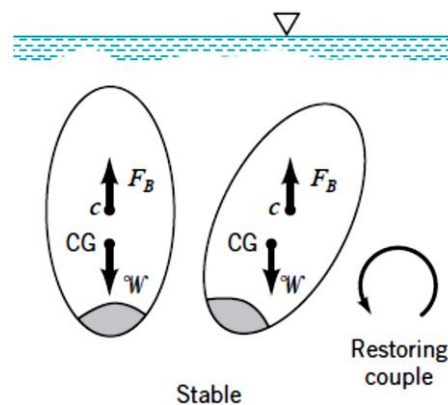

Fig.3. Stability of a completely immersed body—center of gravity below centroid.
The location of the center of gravity (CG) in regard to the center of buoyancy (c) is very important. Fig. 3, which has a center of gravity below the center of buoyancy, a rotation from its equilibrium position will create a *restoring* couple formed by the weight, W , and the buoyant force, F_B , which causes the body to rotate back to its original position. Thus, for this configuration the body is stable. It is to be noted that as long as the center of gravity falls *below* the center of buoyancy, this will always be true; that is, the body is in a *stable equilibrium* position with respect to small rotations.